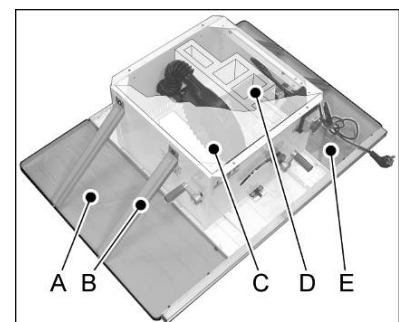

Fig 2
Take off the cabinet bottom cover (C, Fig 2) and remove the polystyrene support (D).